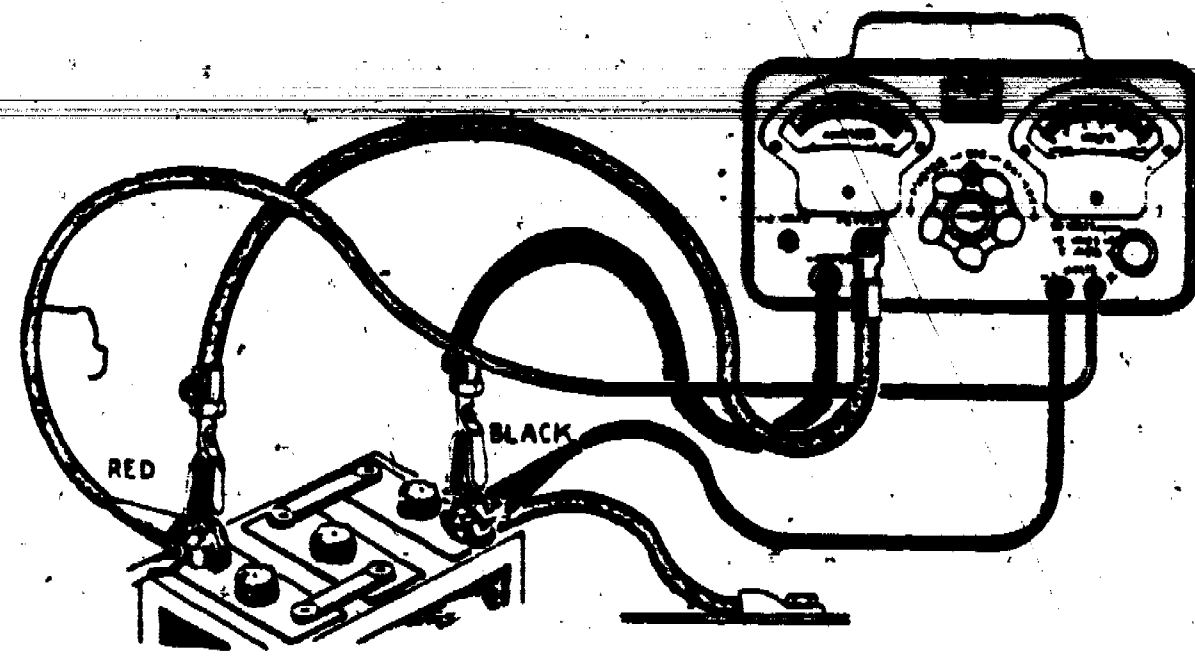

Figure 8. Battery Capacity Test.
3. Refer to figure 8 for proper connections of the Y-20 Battery-Starter Tester.